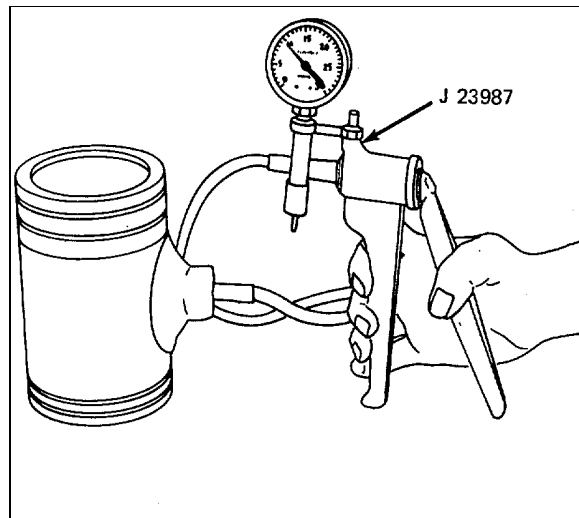

Figure 10. Checking Piston Pin Retainer for Proper Sealing
6. One important function of the piston pin retainer is to prevent the oil, which cools the underside of the piston and lubricates the piston pin bushings, from reaching the cylinder walls. Check each retainer for proper sealing with leak detector J 23987 (Fig. 10). Place the suction cup over the retainer and hand operate the lever to pull a vacuum of 10 inches on the gage. A drop in the gage reading indicates air leakage at the retainer.